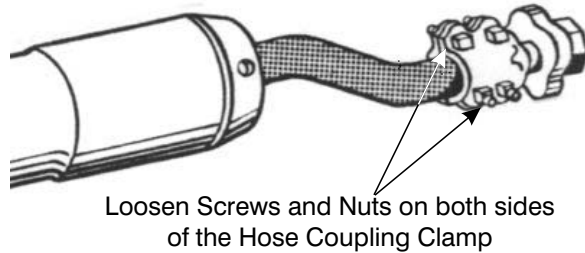

Figure 11-3. Loosening Hose Coupling Clamp
2. Refer to Figure 11-3. Loosen the square head screws and nuts of the Hose Coupling Clamp.